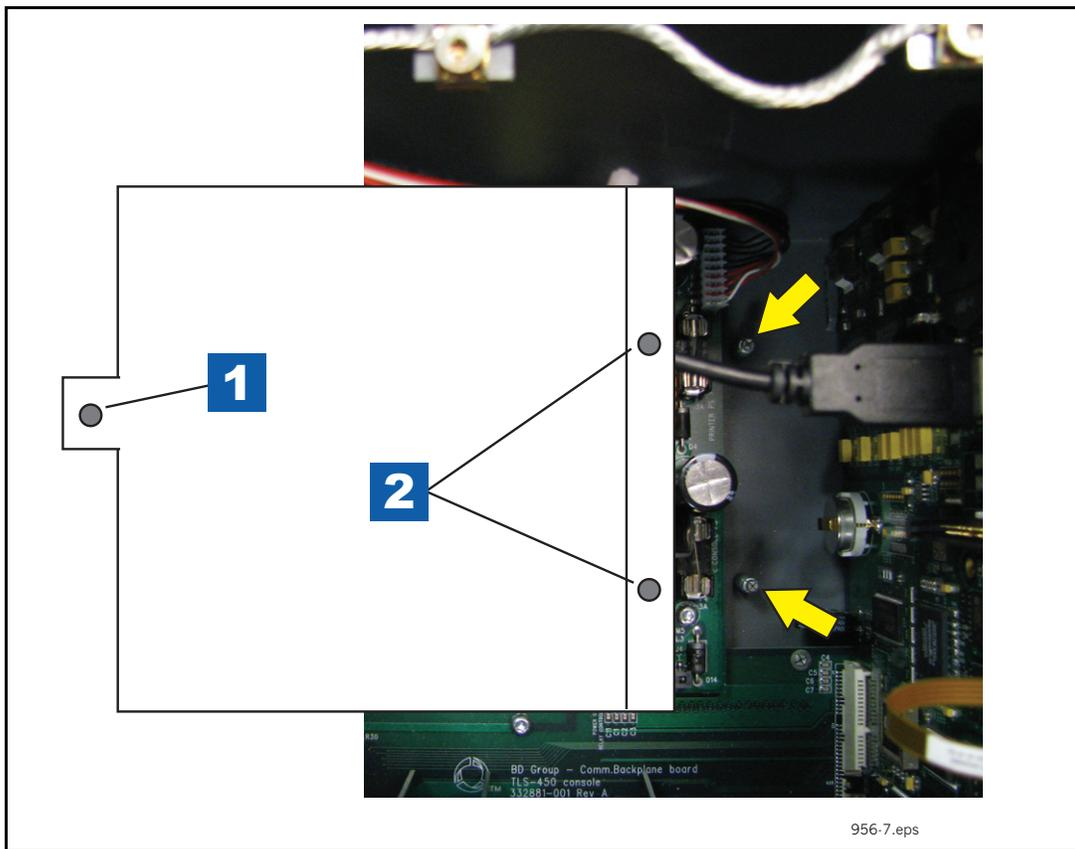

Figure 9. Replacing Power Supply shield over Power Supply board
17. Place the Power Supply shield (item 2 in Figure 7) over the Power Supply board and lower it down onto its two retention pins (see item 2 in Figure 9) and snap it into place.
**Legend for numbered boxes in Figure 9**